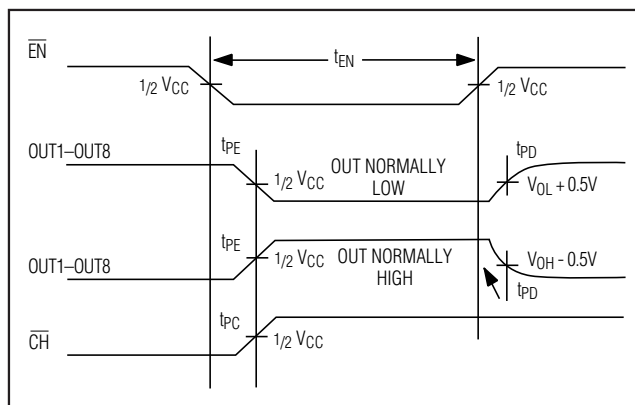

Figure 4. MAX6818 μP-Interface Timing Diagram
The MAX6818 has an output enable ($\overline{EN}$) input that allows switch outputs to be three-stated on the μ P data bus until polled by the μ P. Also, state changes at the switch inputs are detected, and an output (CH) goes low after the debounce period to signal the μ P. Figure 4 shows the timing diagram for enabling outputs and reading data. If the output enable is not used, tie $\overline{EN}$ to GND to “always enable” the switch outputs. If $\overline{EN}$ is low, CH is always high. If a change of state is not required, leave CH unconnected.